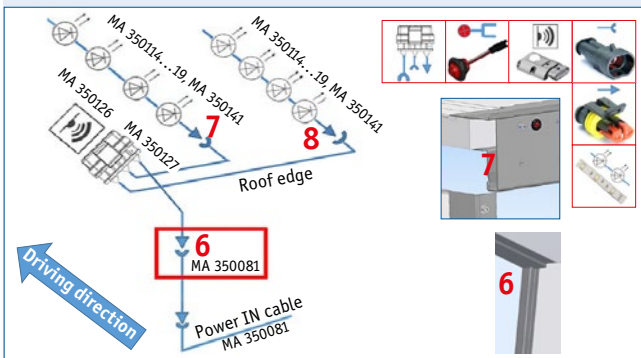

Fig. 3.4.3
To **wire the LED strips with motion detectors (infrared sensor)** fit together the connectors (7 / 8) and push the plug-in connection (6) into the left-hand frame pillar (Fig. 3.4.3).